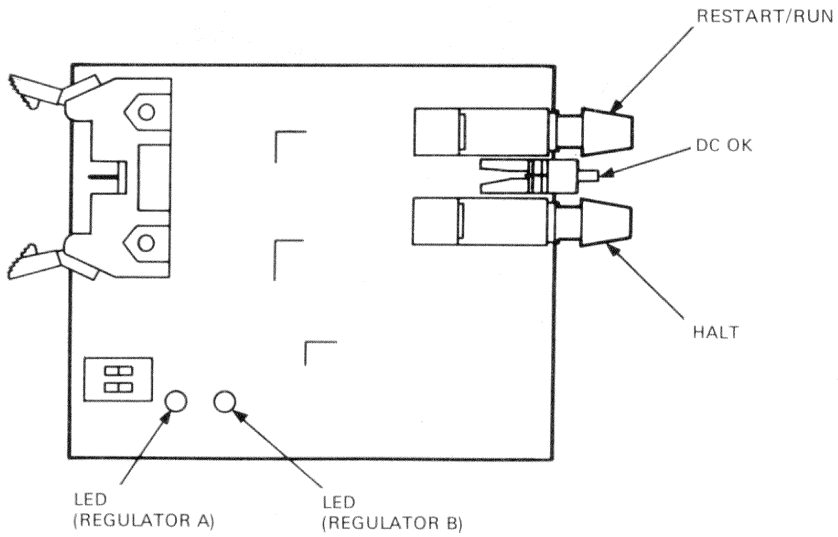

Figure 1-7 CPU Console Board
1.3.2.1 CPU Console Board – The CPU console board (Figure 1-7) is attached to the back of the control panel. It contains a DC OK indicator light and two buttons that let the user halt or restart the system. A ribbon cable connects the CPU console board to the backplane. This cable provides the connection between the CPU and the CPU console board.